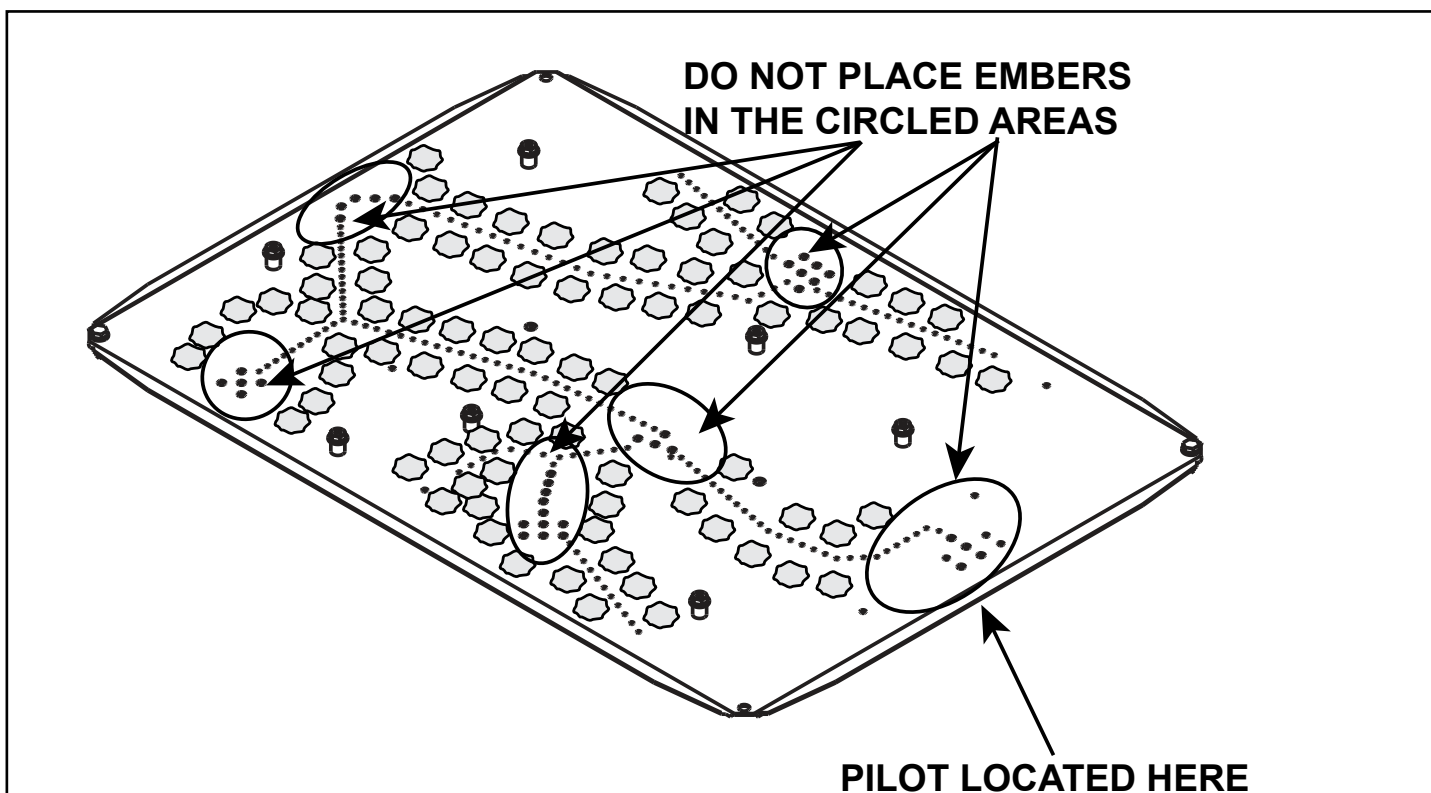

Figure 11.13 Placement of Embers
Place glowing embers as shown in Figure 11.13.
- Embers may only be placed in areas as shown in Figure 11.13. Care should be taken not to cover the lighting trail of ports near pilot assembly as shown in Figure 11.13.
- When placing Glowing Embers® onto the burner care should be taken so that the ports are not covered. Place the dime-size ember pieces. See Figure 11.13. Failure to follow this procedure will likely cause lighting and sooting problems.